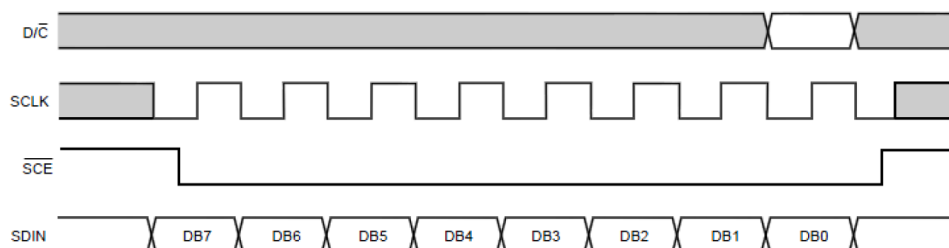

Figure 7: How the DC signal is timed with the SPI signals
The Nokia 5110 uses SPI signals to receive commands, text, and images to be displayed. As to be noticed in Figure 7 on the SPI signals that there is only one data output signal. The LCD somehow, needs to distinguish whether the data being sent is data meant to be displayed, or if it is a command meant to control the screen. This is done not through the SPI module, but “manually” through a GPIO pin. The Nokia screen has a pin named Data/Command (DC). When the DC signal is low, the Nokia interprets the incoming SPI bits as a command. Similarly, if the DC signal is high, the SPI bits are interpreted as data to be displayed. The DC signal can be set high or low long before the last bit is sent.